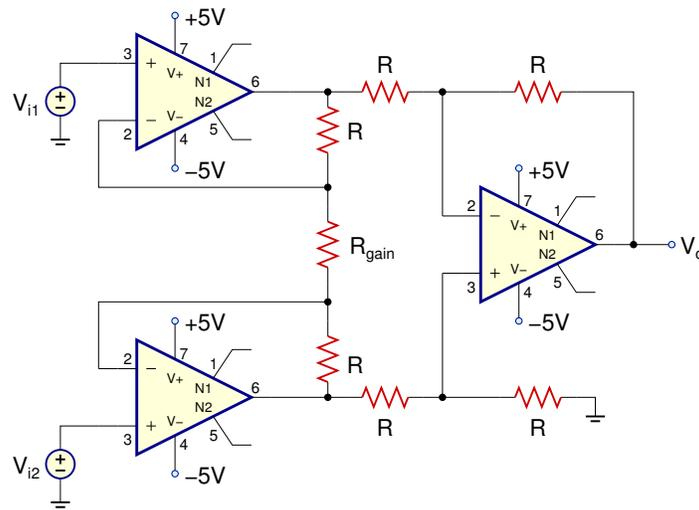

Figure 3: Typical instrumentation amplifier circuit
The instrumentation amplifier is a differential amplifier that has high input impedance and the capability of gain adjustment through the variation of a single resistor. A typical instrumentation amplifier is shown in Fig. 3.
3. For the instrumentation amplifier in Fig. 3, find  $R$  to have  $V_o = 3(V_{i2} - V_{i1})$ , if  $R_{gain} = 1k\Omega$ .
1. Build the circuit in Fig. 3 with the simulated component values.
4. For the instrumentation amplifier in Fig. 3: